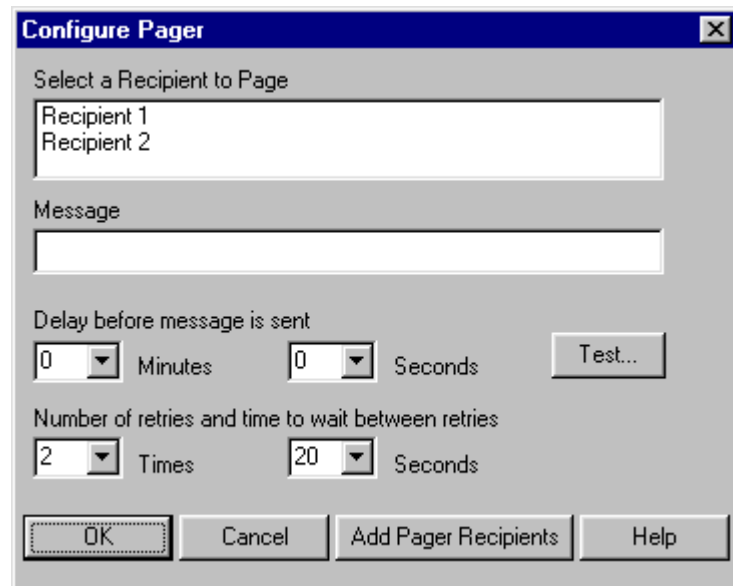

Figure 28. Configure Pager Dialog Box
2. In the Configure Pager dialog box, select a recipient to page (see Figure 28).